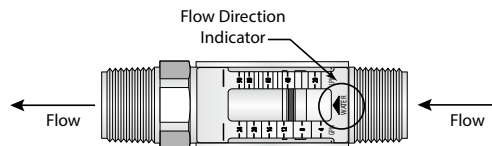

Figure 1: Flow direction
These meters only accept flow in one direction. Make sure to align the *Flow Arrow*, located on the bottom of the meter's flow scale, in the same direction as the anticipated line flow. See Figure 1.
flow meter corresponds with the system flow direction. See Figure 1.
6. Make sure the flow direction arrow on the flow meter corresponds with the system flow direction. See Figure 1. Lubricate the union O-ring and connect the union together.
7. Place the flow meter in between the two installed brass fittings. Make sure the flow direction arrow on the flow meter corresponds with the system flow direction. See Figure 1. Thread the two brass hex couplers into the flow meter body.
8. Place flow meter between the two installed fittings. Make sure the flow direction arrow on the flow meter corresponds with the system flow direction. See Figure 1. Thread the two hex couplers onto the flow meter body.
2. Thread the inlet of the flow meter onto the appropriate pipe connection. Make sure the flow direction arrow on the flow meter corresponds with the system flow direction. See Figure 1.